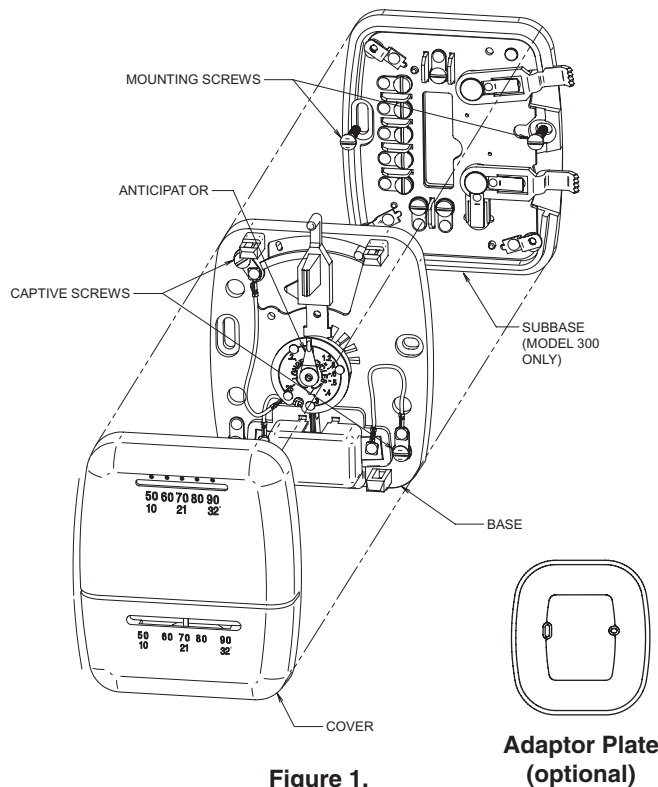

Figure 1.
- Mount switching subbase/adaptor plate:** Use the screws provided to mount the subbase and adaptor plate (optional) to wall (see Fig. 1).
- Mount Thermostat Base:** Gently push excess wire back into the wall opening and plug hole with a fire-resistant material, such as fiberglass insulation to prevent drafts from affecting thermostat operation. Mount the thermostat base to the sub-base using the three captive screws on the thermostat base. (See Fig. 1) Tighten the screws securely. Remove paper tag from plastic contact cover. Proceed to Step #5.